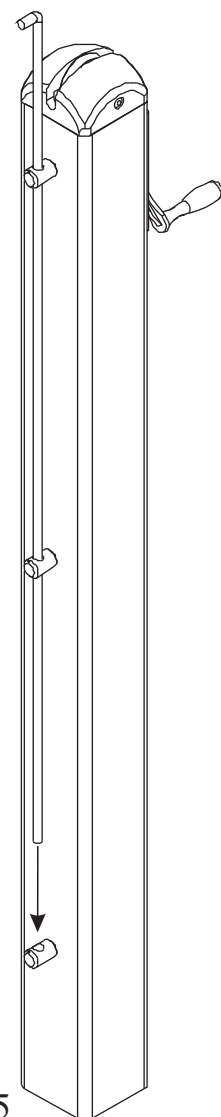

Fig.5
**3** To attach the net, secure the loop end of the net wire onto the hook on the dummy post (part 2) and pass the other end of the wire over the wheel and into the winder mechanism on the winder post (part 1). As shown Fig1 & 2. Insert the net retaining rod, and catch the edge of the net with the bar between the retainer rod holders as you insert it. As shown Fig.5. Ensure that both ends of the net are secured with the net retainer rods. The correct tension can now be applied by winding the handle clockwise. As shown Fig.1.